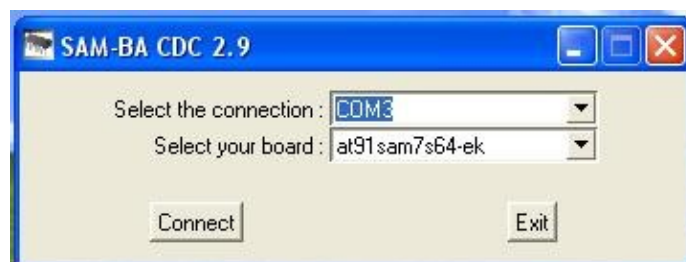
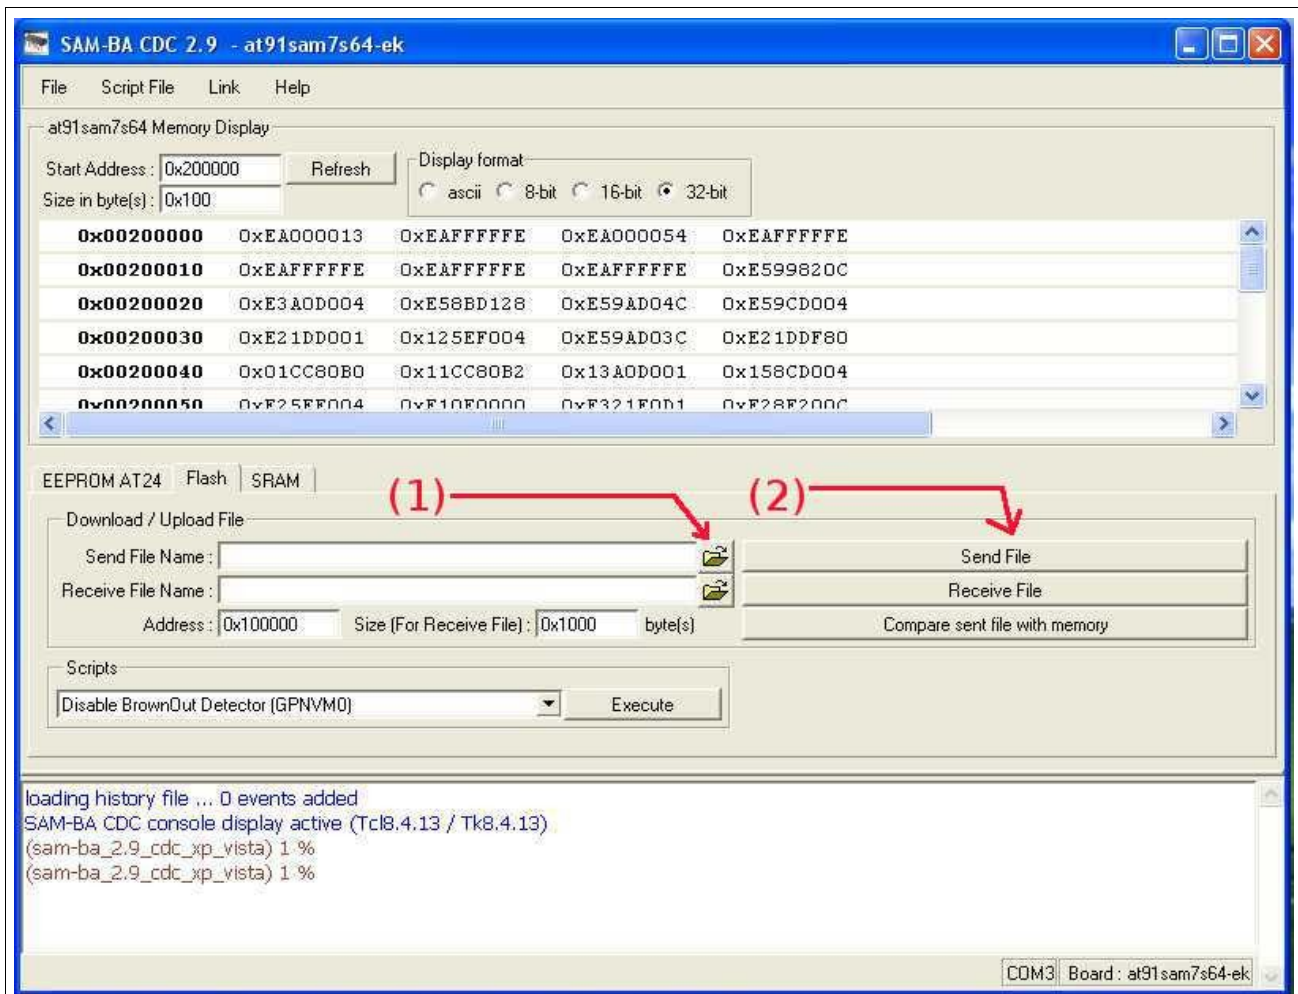

Figure 22:
Figure 23: the boot application.
10. Launch the *sam-ba_cdc_2.9.xp_vista.exe* application by a double-click on its icon shown in figure 21 and the window shown in figure 22 appears.
11. Now **you must select the board “at91sam7s64-ek” in the “Select your board:” menu**, as shown in figure 22. Failing to do so will cause the *Universal Live Timing Box* to stop working, with no warning, seemingly dead after the programming procedure. Never mind – you will just have to redo the whole process with the proper board selection. Once this is done, click on the “*Connect*” button to launch the boot application. This one appears as shown in figure 23.
Now click on the button (1) shown in figure 23, and select the file to download in the *Universal Live Timing Box* device. Then click on the button (2) shown in figure 23 to launch the downloading. During the downloading phase the application generates two questions. Please answer “yes” to the first question and “no” to the second one. At the end of the downloading, please click on “*Quit*” option in the “*File*” menu to close the boot application. Now the *Universal Live Timing Box* is updated and it's possible to disconnect it from the PC.